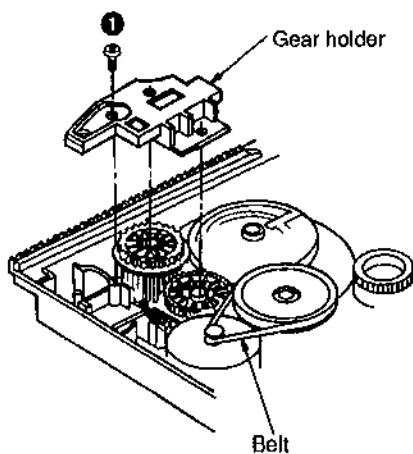

Fig.6
9. Install the gear holder and secure it with a screw ①. (See Fig.6.)
10. Install the belt. (See Fig.6.)